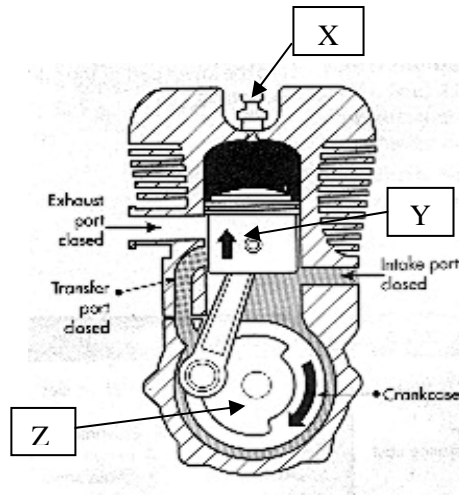

FIGURE 8
15. Figure 8 shows a petrol engine.